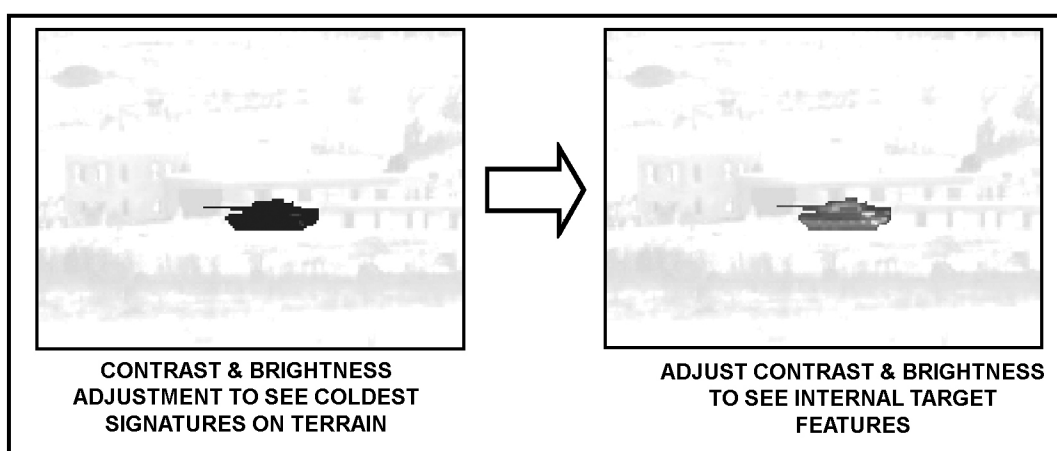

Figure C-34. Image adjustment for detecting cold, stationary targets.
f. **Cold Stationary Targets.** When the gunner sees a cold stationary target, he can assume there has been no recent activity. (While the absence of heat likely indicates an absence of activity, it is possible that the tank may be using a remotely located generator for power to deceive U.S. thermal imaging systems.) A cold target is cooler than its background. It appears as a dark green or black image against a lighter green background. Look for an IR signature that resembles a silhouette of a wheeled or tracked vehicle (Figure C-34).
(1) To find cold targets easily, adjust contrast and brightness up so only the coldest signatures appear in the gunner's field of view and the rest of the scene is bright green.
(2) When the gunner thinks he has detected a target, he adjusts the contrast and the brightness so he can see the rest of the target's features.